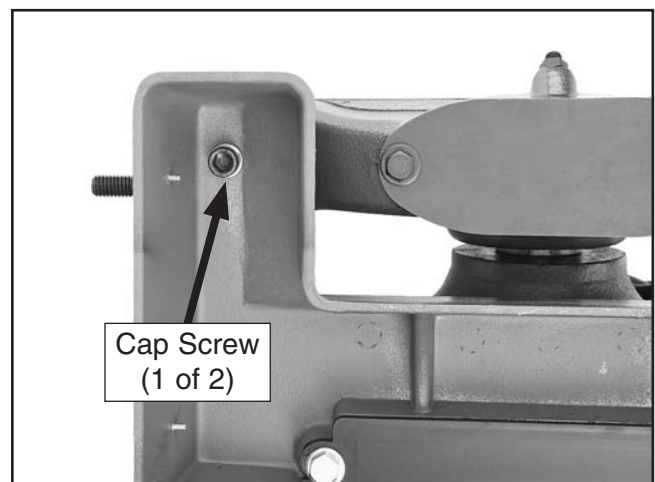

Figure 4. One of two cap screws that secures the lower disc guard.
3. With the help from another person to steady the sander, tip it back to gain access to the two cap screws underneath the base that secure the lower blade guard, then remove these cap screws (see **Figure 4**).